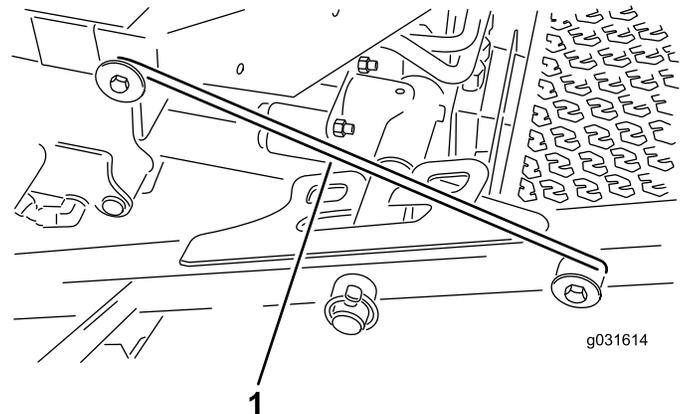

Figure 27
4. Release the latch rod from the front carrier-frame retainer (Figure 27).
5. Lift the outside of the front cutting decks and place the latch over the frame pin mounted on the front of the operator's platform (Figure 27).